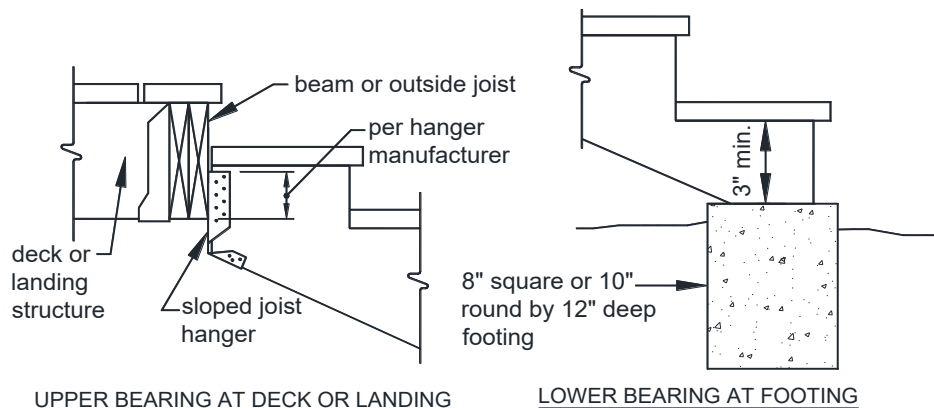

FIGURE 18: STRINGER BEARING
- Each Stringer shall bear on footings and attach to the deck or landing per FIGURE 18.